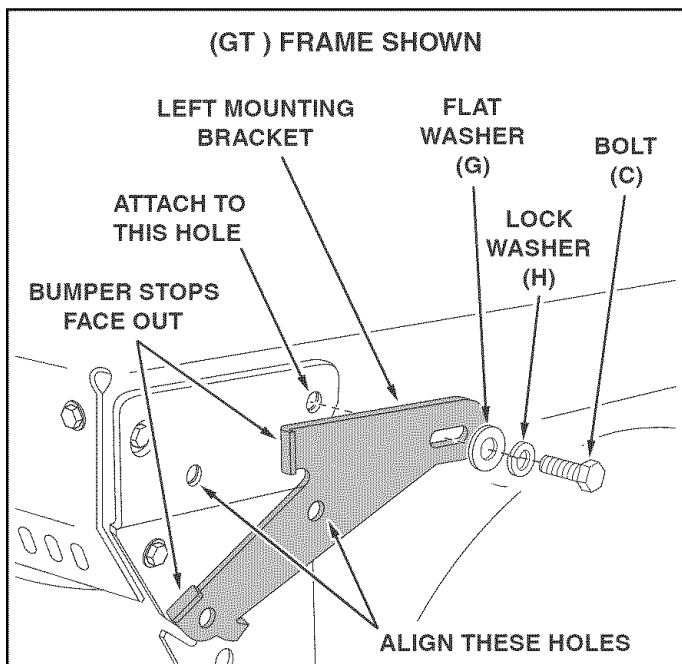

FIGURE 4
STEP 4: (SEE FIGURE 4)
- Attach left mounting bracket to hole shown in left side of tractor frame using bolt (C), lock washer (H) and flat washer (G). Align middle hole in bracket with empty hole in tractor frame and tighten bolt (C) to hold bracket in place. Repeat for right mounting bracket.